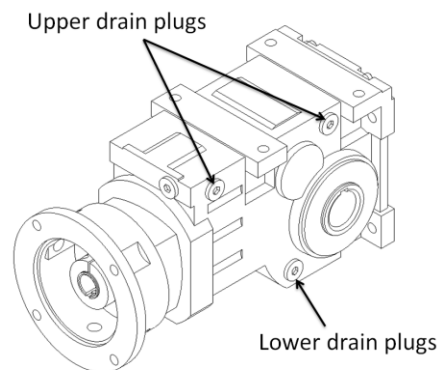

Figure 36 : Gearbox drain plugs location
6. Take one of the 2 sections and locate the drain plugs on the gearbox (see Figure 36). Remove one of the upper ones to use as a vent and after, remove the lower drain plug and gather the gearbox oil with a pan that can hold up to 0.52 US gallon (2 liters).
7. Take one of the 2 sections and locate the drain plugs on the gearbox (see Figure 36). Remove one of the upper ones to use as a vent and after, remove the lower drain plug and gather the gearbox oil with a pan that can hold up to 0.52 US gallon (2 liters).